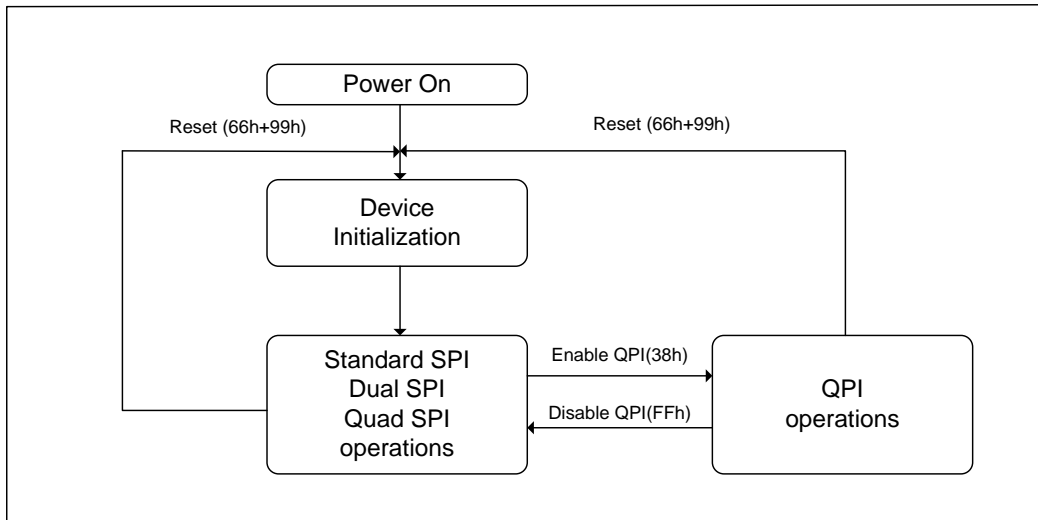

Figure 3. Operation Diagram of FM25M32A
The FM25M32A supports Quad Peripheral Interface (QPI) operation when the device is switched from Standard/ Dual/ Quad SPI mode to QPI mode using the “Enable QPI (38h)” instruction. The typical SPI protocol requires that the byte-long instruction code being shifted into the device only via DI pin in eight serial clocks. The QPI mode utilizes all four IO pins to input the instruction code, thus only two serial clocks are required. This can significantly reduce the SPI instruction overhead and improve system performance in an XIP environment. Standard/ Dual/ Quad SPI mode and QPI mode are exclusive. Only one mode can be active at any given time, “Enable QPI (38h)” and “Disable QPI (FFh)” instructions are used to switch between these two modes. Upon power-up or after software reset using “Reset (99h)” instruction, the default state of the device is Standard/ Dual/ Quad SPI mode. To enable QPI mode, the non-volatile Quad Enable bit (QE) in Status Register-2 is required to be set. When using QPI instructions, the DI and DO pins become bidirectional IO0 and IO1, and the /WP and /HOLD pins become IO2 and IO3 respectively. See Figure 3 for the device operation modes.